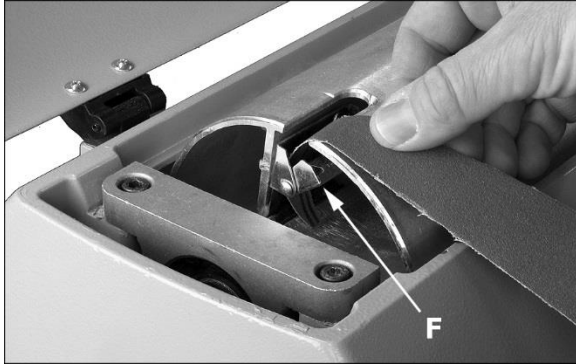

Figure 5
1. Press fastener lever (F, Figure 5) on outboard (left) end of drum, and insert tapered end of abrasive through slit in fastener, as shown. Insert approximately 3-inches of abrasive strip